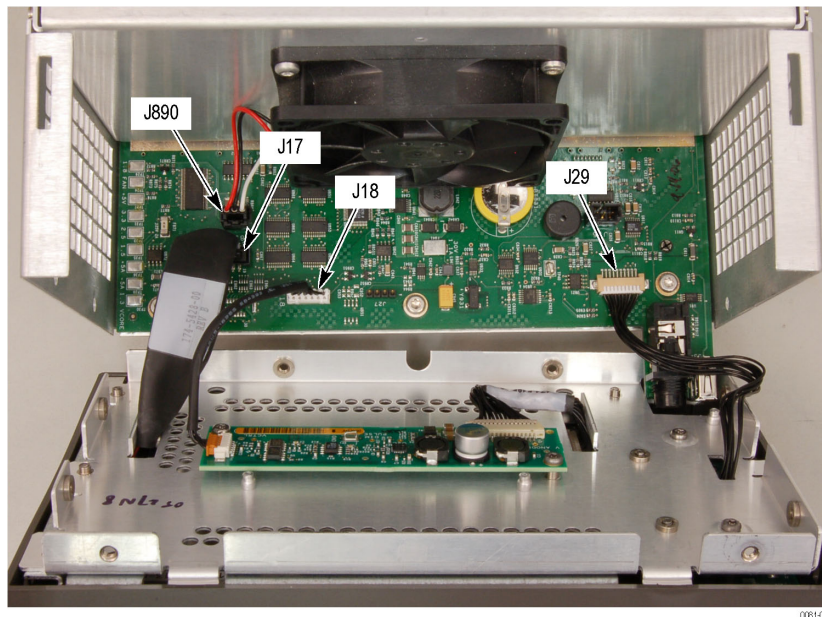

Figure 3: Front panel cable connections
2. Use long nose pliers to compress the lock tab on the connector, and disconnect the fan power cable from J890 on the Main board. (See Figure 3 on page 30.)
3. Disconnect the cables connecting the Front panel/LCD assembly to the Main board at J17, J18, and J29. (See Figure 3 on page 30.)